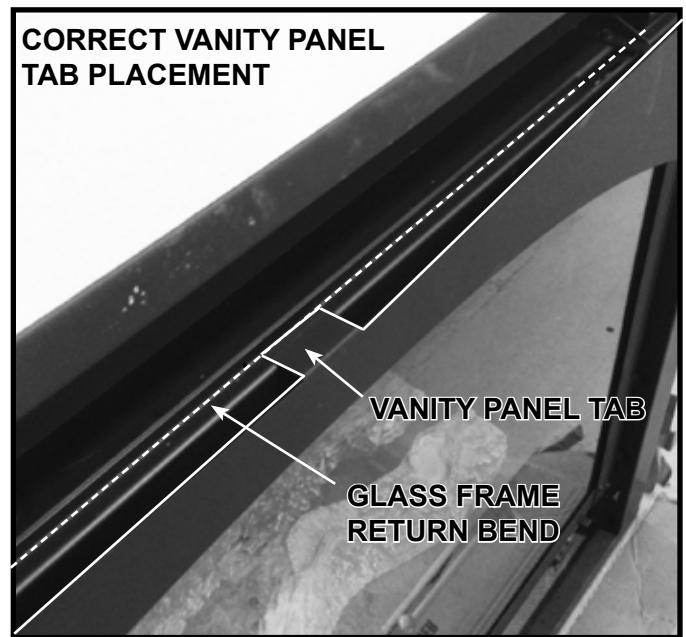

Figure 11. Center Tab
11. Ensure the vanity panel tab is correctly positioned against the glass frame return bend as shown in Figure 11. The vanity panel will bow slightly to allow for proper air flow.